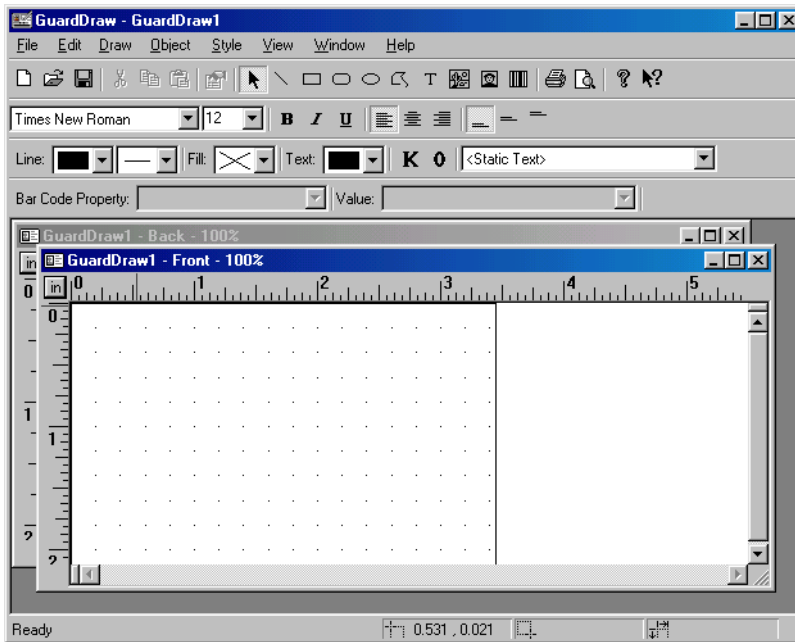

Figure 10: A New GuardDraw Template Window
3. A new GuardDraw template is now open (see Figure 10).